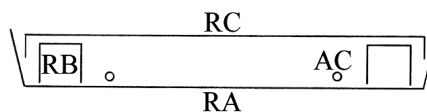

Figure 11
(13) Air Pump Installation
- (i) Put the rubber grommet (AF) into the lower of the two holes in the back panel (J).
- (ii) From the inside push the tube elbow connector (AD) through the grommet & connect the leg of the connector on the outside of the cabinet to the air pump with a length of the black PVC air tube (AB).
(14) Air System Installation
- (i) To the inside leg of the tube elbow connector (AD) attach a length of black PVC air tube (AB) to reach to the base of the plastic water tray (RA).
- (ii) In the end of the black PVC air tube (AB) insert the 'T' connector (AE).
- (iii) To the other 'legs' of the 'T' connector connect length of the perforated air tube (AC) in a continuous loop, snaking it around the base of the plastic water tray.
(15) Inside The Water Tray
With the perforated air tube (AC) in the base of the plastic water tray, position the two mesh support slats (RB), one at the front & one at the back of the tray. Over these mesh support slats place the subject support mesh (RC) – as shown in figure 11.